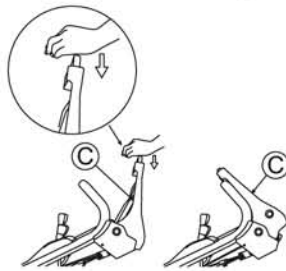

Fig. 17
3. Push Blade lever (C) forward while pressing its yellow button. Then, the blade starts rotating. (See Fig. 17)